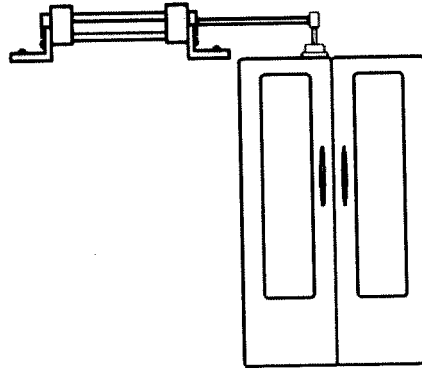

Figure Q1 (b)
- (b) Pure-pneumatic systems can be used to operate the doors of public vehicles as shown in **Figure Q1 (b)**. Assuming that the opening and closing of the doors are controlled by two switches of ON and OFF buttons. When the switch button ON is pressed, the doors will open. When the switch button OFF is pushed, the doors will close.